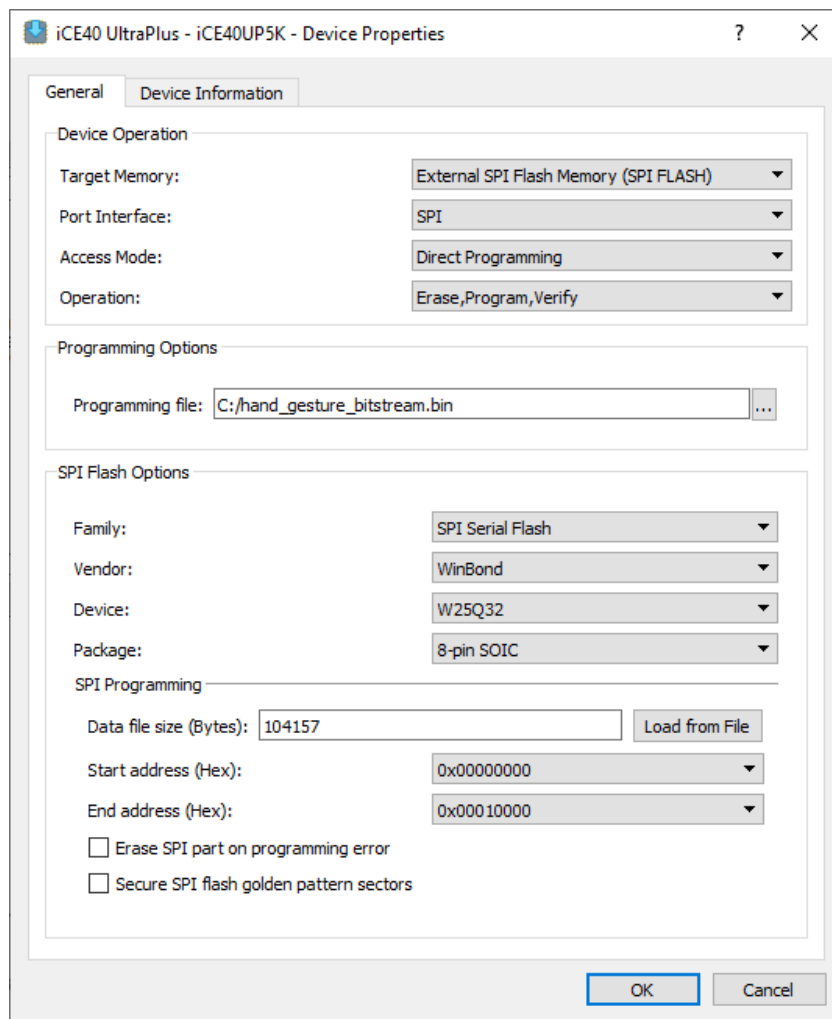

Figure 4.5. Radiant Programmer – Bitstream Flashing Settings
7. To program the bitstream file, select the options as shown in Figure 4.5.